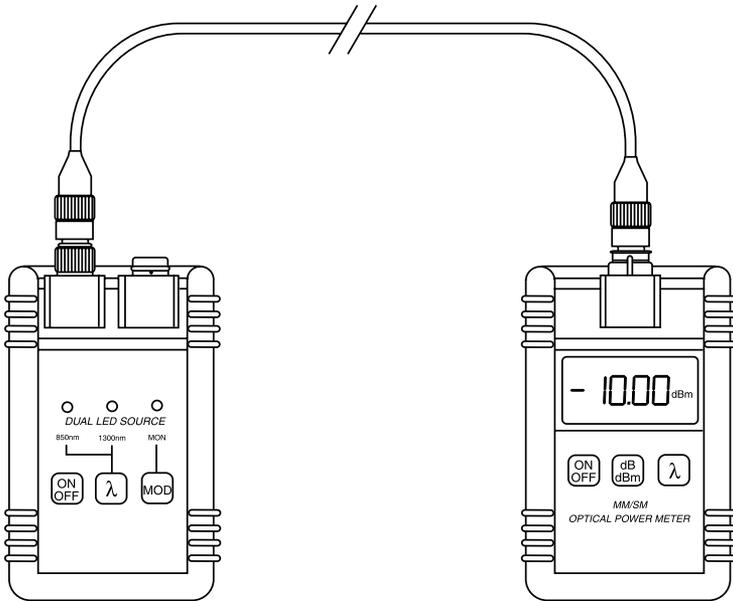

Figure 5-1. Running reference cable for insertion-loss testing.
1. Connect the Dual LED Source or other appropriate light source to the Optical Power Meter using a suitable reference cable with a length of about 6 to 10 feet (1.8 to 3 meters), as shown in Figure 5-1.